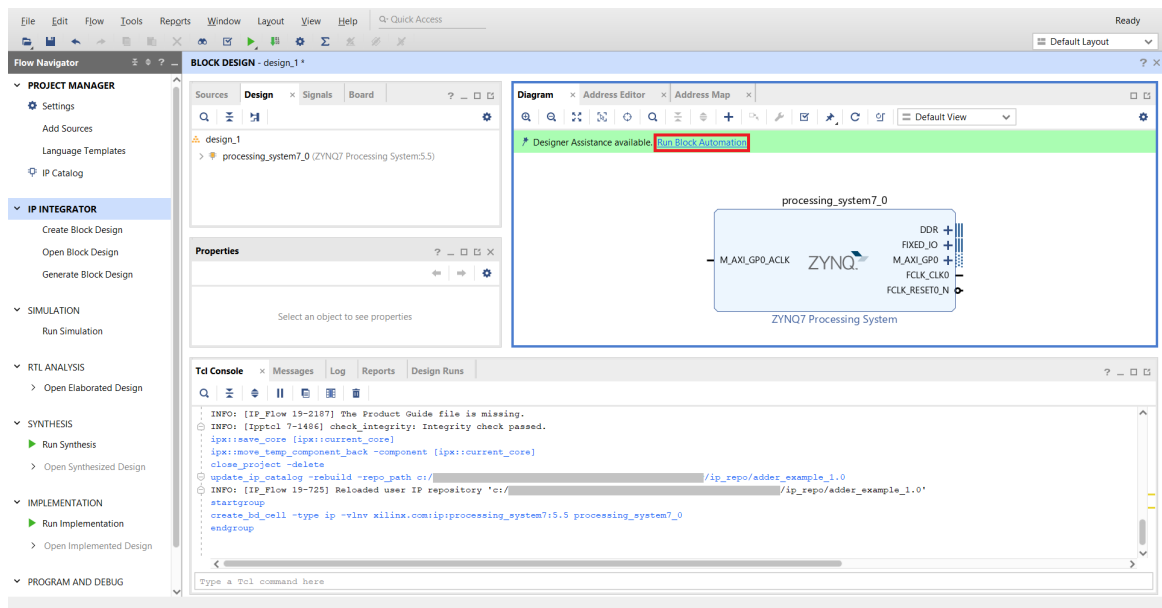

Figure 25: Click on *Run Block Automation* to add automatically useful configuration
- STEP 1: Click on the *plus* button in *Diagram* box and search for *Zynq7 Processing System*; add this IP by double clicking on it. The IP block should appear as in Figure 25